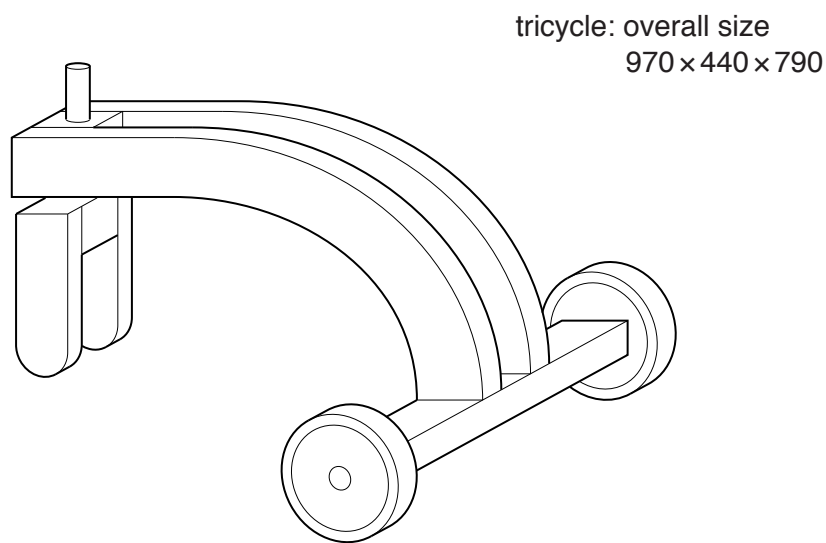

Fig. 10
- 9 Fig. 10 shows an incomplete idea for a child's wooden tricycle.